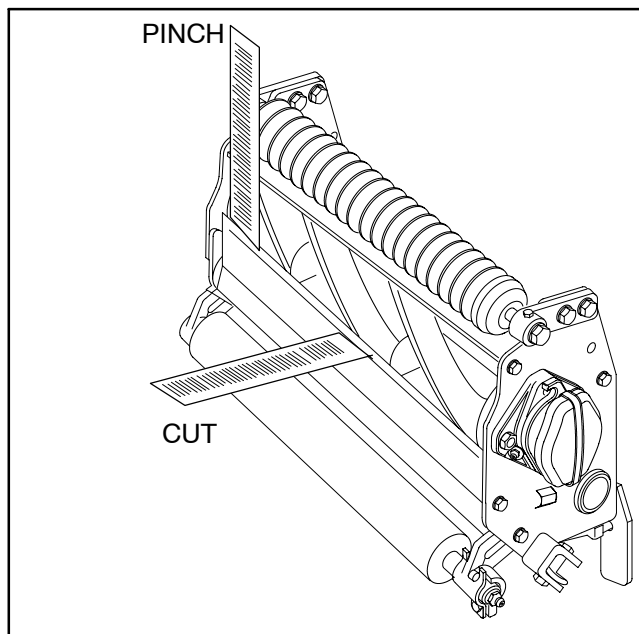

Figure 12
5. After the adjustment is accomplished, make sure of the following (Fig. 12):